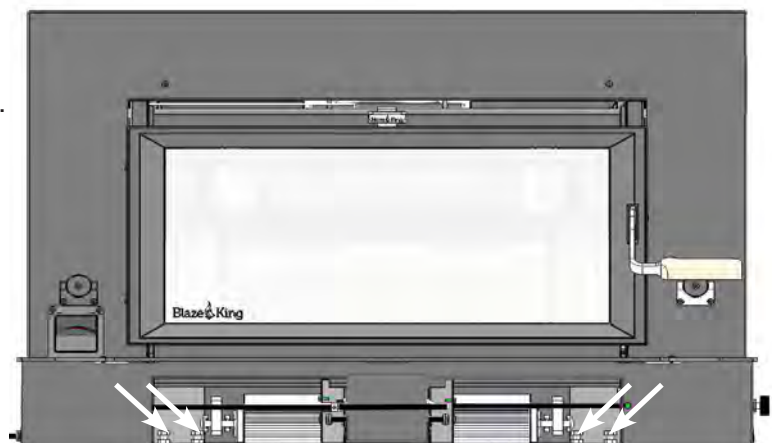

Fig. 14
3. Position stove in fireplace opening. If required, use the four leg leveler bolts to level the firebox. (Fig. 14)